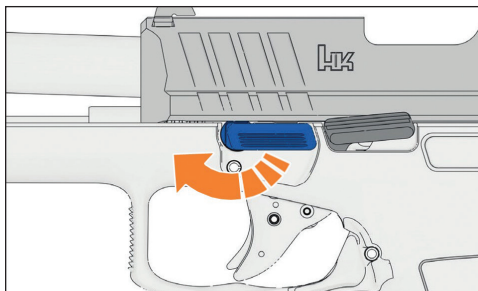

Figure 22 – Rotating the disassembly lever
2. With the slide still locked to the rear and the magazine removed, rotate disassembly lever, located on the left-hand side of the frame assembly, downward until the lever is pointing to approximately the six o'clock position (see Figure 22).